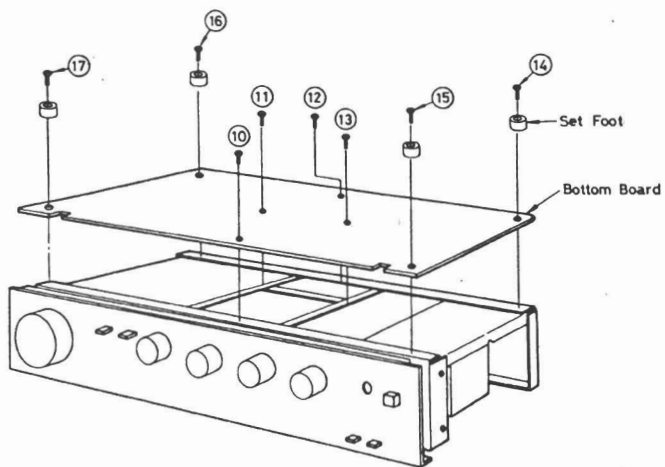

Fig. 3
1. Remove the 4 setscrews (⑩~⑬ in Fig. 3) used to secure bottom board and 4 setscrews (⑭~⑰ in Fig. 3) for the legs. Then the bottom board can be detached.